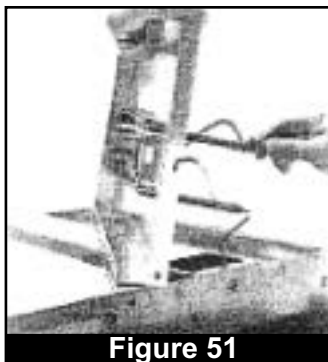

Figure 51
9. Return air deflector housing to the heating module and reconnect wiring (it is not important which way you match the wires to the new element). (Fig. 51)